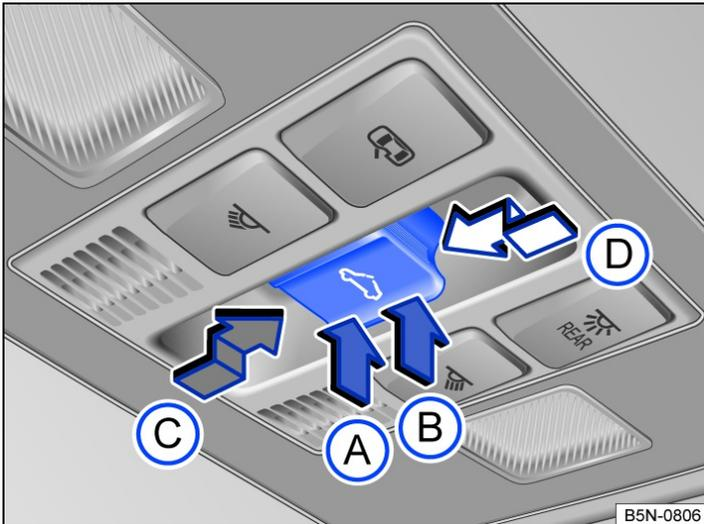

Fig. 1 In the roof: button for the glass roof.
- Manual operation: push button → Fig. 1 (B) to the first position.
- One-touch function: push button (B) to the second position.